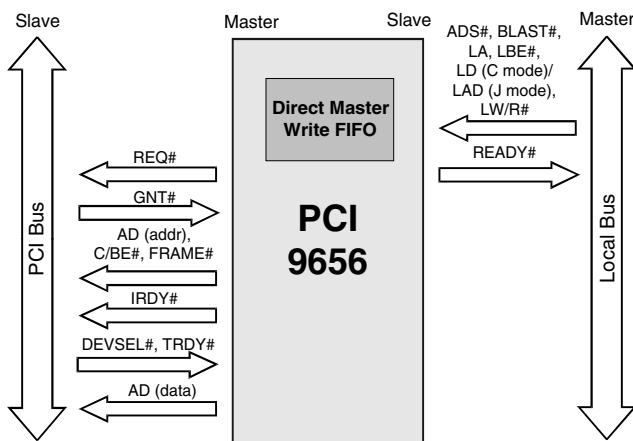

Figure 5-2. Direct Master Write
For Direct Master Memory access to the PCI Bus, the PCI 9656 has a 32-Qword (256-byte) Write FIFO and a 16-Qword (128-byte) Read FIFO. The FIFOs enable the Local Bus to operate independently of the PCI Bus and allows high-performance bursting on the PCI and Local Buses. In a Direct Master write, the Local processor (Master) writes data to the PCI Bus (Slave). In a Direct Master read, the Local processor (Master) reads data from the PCI Bus (Slave). The FIFOs that function during a Direct Master write and read are illustrated in Figures 5-2 and 5-3.
**Note:** Figures 5-2 and 5-3 represent a sequence of Bus cycles.